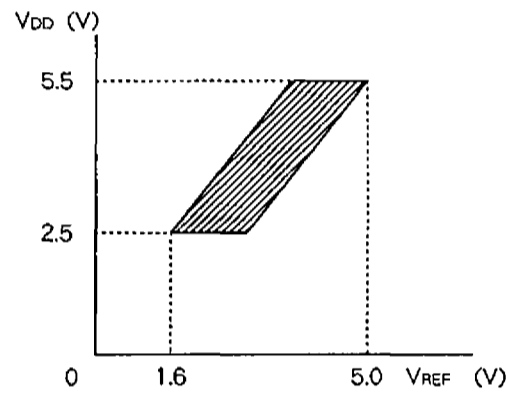

Fig. 5 Power supply voltage detection reset function chart
The graph in Fig. 5 shows the relationship between the power supply voltage VDD and reference voltage VREF of the power supply voltage detection reset function.
**Note)** The graph in Fig. 5 serves as guide to the function operation area obtained using average devices. Individual adjustment is needed when Zener diodes, etc., are connected to the VREF pin.